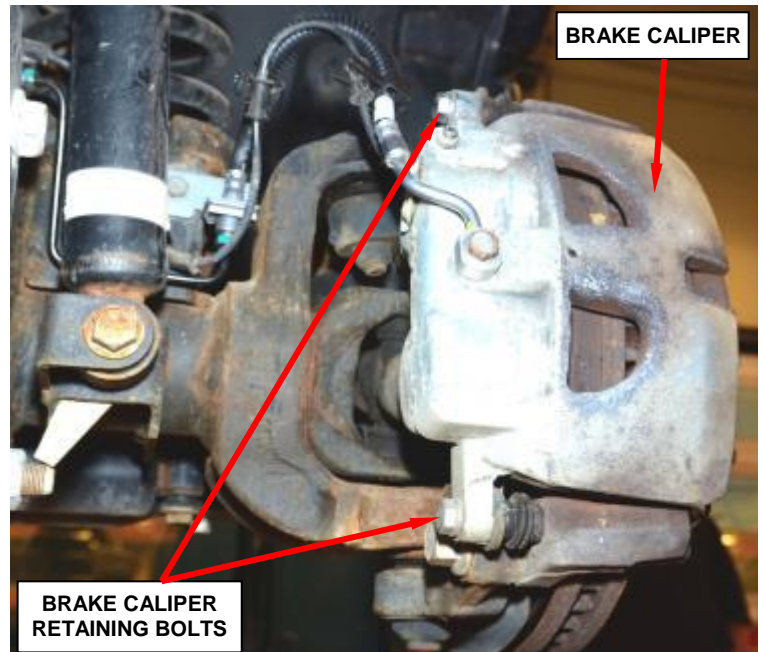

Figure 30 – Brake Caliper Retaining Bolts
7. Remove the front brake caliper retaining bolts and support the calipers using a bungee cords or equivalent (Figure 30).
17. Install the front brake calipers (Figure 30). Tighten the brake caliper retaining bolts to 55 ft. lbs. (75 N·m).